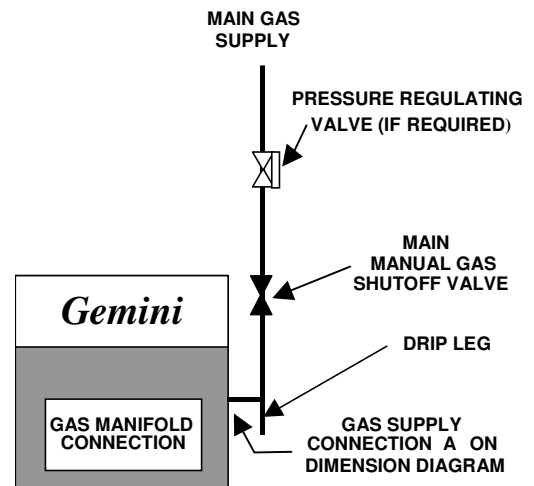

Figure 2-8, Recommended Gas Supply Line Layout
- 3). Refer to Figure 2-8 for the recommended layout of the gas supply lines. Refer to Figure 2-1, 2-2, 2-3, or 2-4 depending on which model you have, Detail **A** for the location of the ¾ inch gas inlet of the steamer.
- 4). Install a manual shut off valve between the gas supply and the steamer. See Figure 2-8. From now on this valve will be referred to as the Main Manual gas valve.
- 5). It is recommended that a sediment trap (drip leg) be installed in the gas supply line. See Figure 2-8.
- c. A main disconnect switch and a separate fuse or breaker should be installed near the unit as shown in Figure 2-8. See Figure 2-1, 2-2, 2-3, or 2-4 for the steamers power requirements. Throughout the